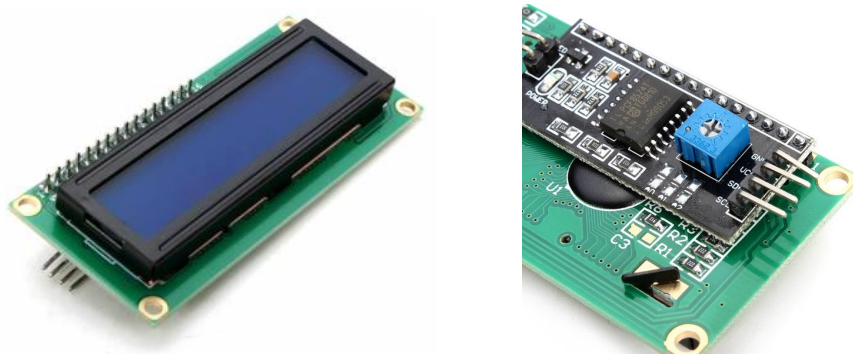

Figure 9. LCD with IIC/I2C Serial Interface Board Module
6. Liquid Crystal Display (Figure 9.).